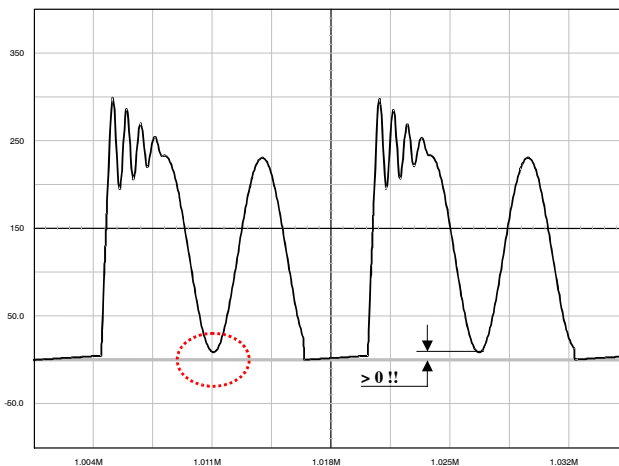

Figure 35. The Drain-Source Wave Shall Always be Positive
1. The lateral MOSFET body-diode shall never be forward biased, either during start-up (because of a large leakage inductance) or in normal operation as shown by Figure 35. This condition sets the
Figure 37a: the simple capacitor limits the voltage according to The lateral MOSFET body-diode shall never be forward biased, either during start-up (because of a large leakage inductance) or in normal operation as shown by Figure 35. This condition sets the maximum voltage that can be reflected during  $t_{off}$ . As a result, the Flyback voltage which is reflected on the drain at the switch opening cannot be larger than the input voltage. When selecting components, you thus must adopt a turn ratio which adheres to the following equation: Equation 3. This option is only valid for low power applications, e.g. below 5 W, otherwise chances exist to destroy the MOSFET. After evaluating the leakage inductance, you can compute C with Equation 4. Typical values are between 100 pF and up to 470 pF. Large capacitors increase capacitive losses...